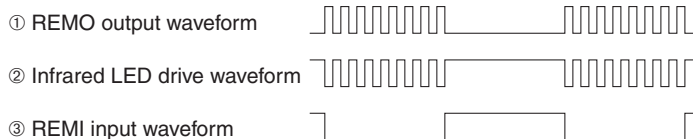

Figure 9.3 Infrared Remote Controller Transmit/Receive Waveforms
The transmit/receive waveforms (monitored at Points ①–③ in Figure 9.1) are shown in Figure 9.3.